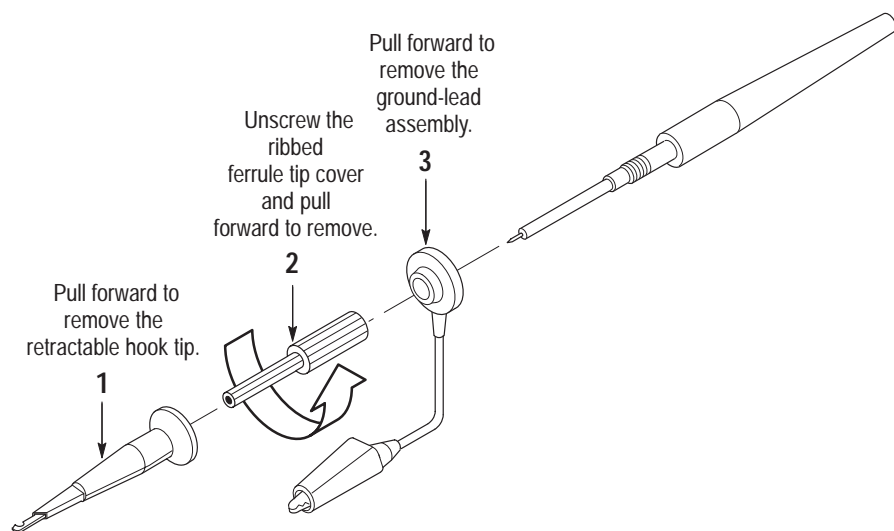

Figure 5–5: Exposing the inner probe tip
- a. *Hook up test-signal source:* Install the optional-accessory probe to **CH 1**. Connect the probe tip to **PROBE COMPENSATION SIGNAL** on the front panel; connect the probe ground to **PROBE COMPENSATION GND** (See Figure 5–2).
a. *Expose the Inner Probe Tip:* Follow the instructions in Figure 5–5.
- Connect the output of a high-frequency sine wave generator, through its leveling head, to a female-to-female adapter. See Figure 5–6.